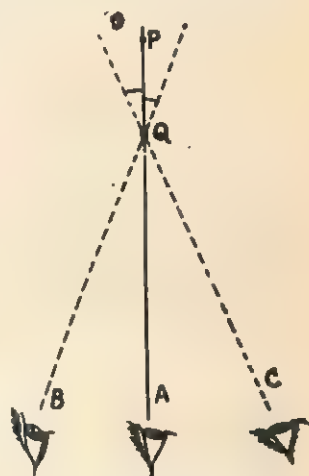

Fig. 11.8. Parallax between P and Q.
**5. Parallax.** Fix two needles or nails P and Q vertically on a drawing board or on a table. View these pins from the position A so that P appears to be directly behind Q as shown in Fig. 11.8. Now shift your eye to the left say to position B, you will observe that the more distant needle P appears to move to the left of Q. Similar observation is there when you shift your eye to the right, say to position C.